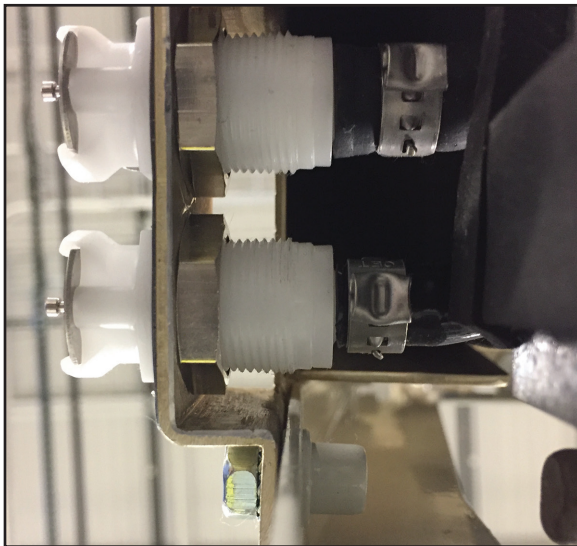

Fig. 8-38 Rear of Drain Valves (Step 5)
5. Using the tip of a flat blade screwdriver, open clamps that secure tube to back of valve (see Figure 8-38).